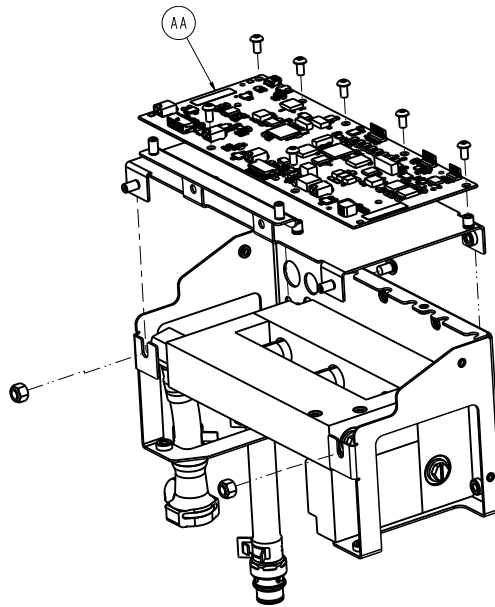

Figure 32 – Main control board
- Disconnect the cable connections from the MCB (AA). The ten cable connections are labeled E, F, G, H, J, M, N, L, AG, and AH (Figure 32).